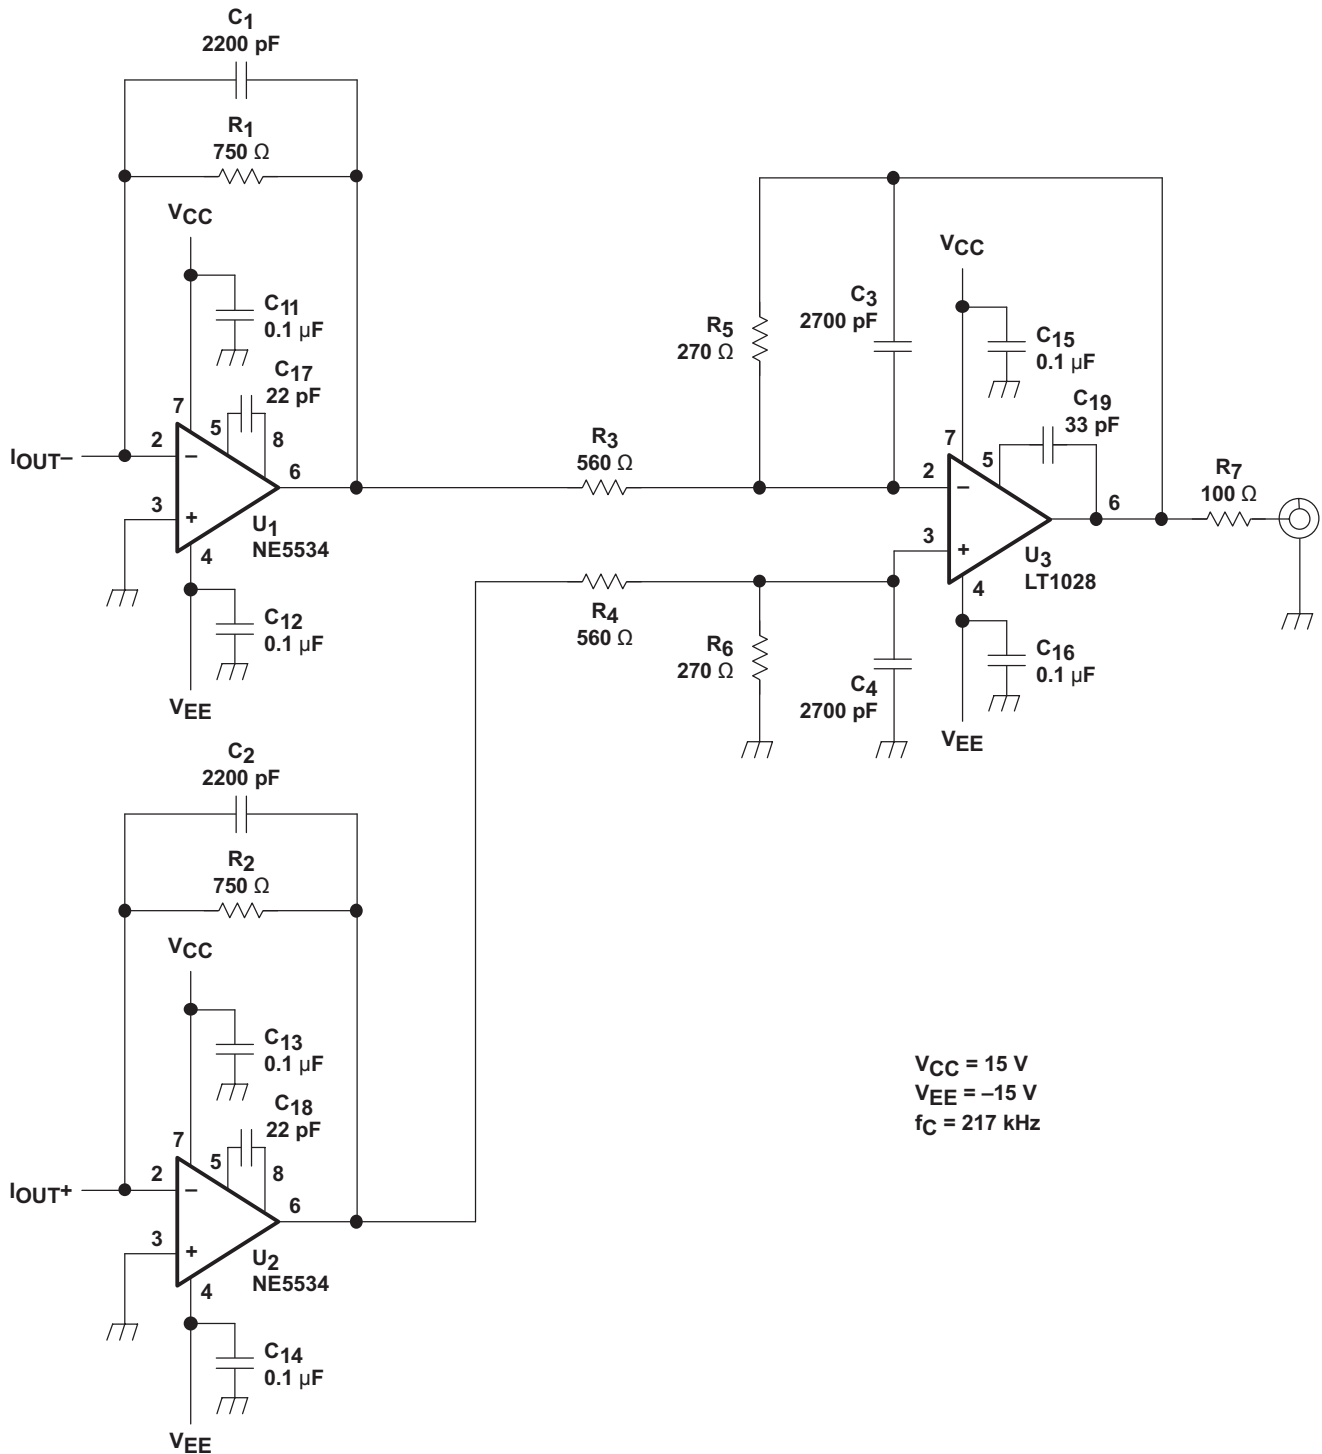
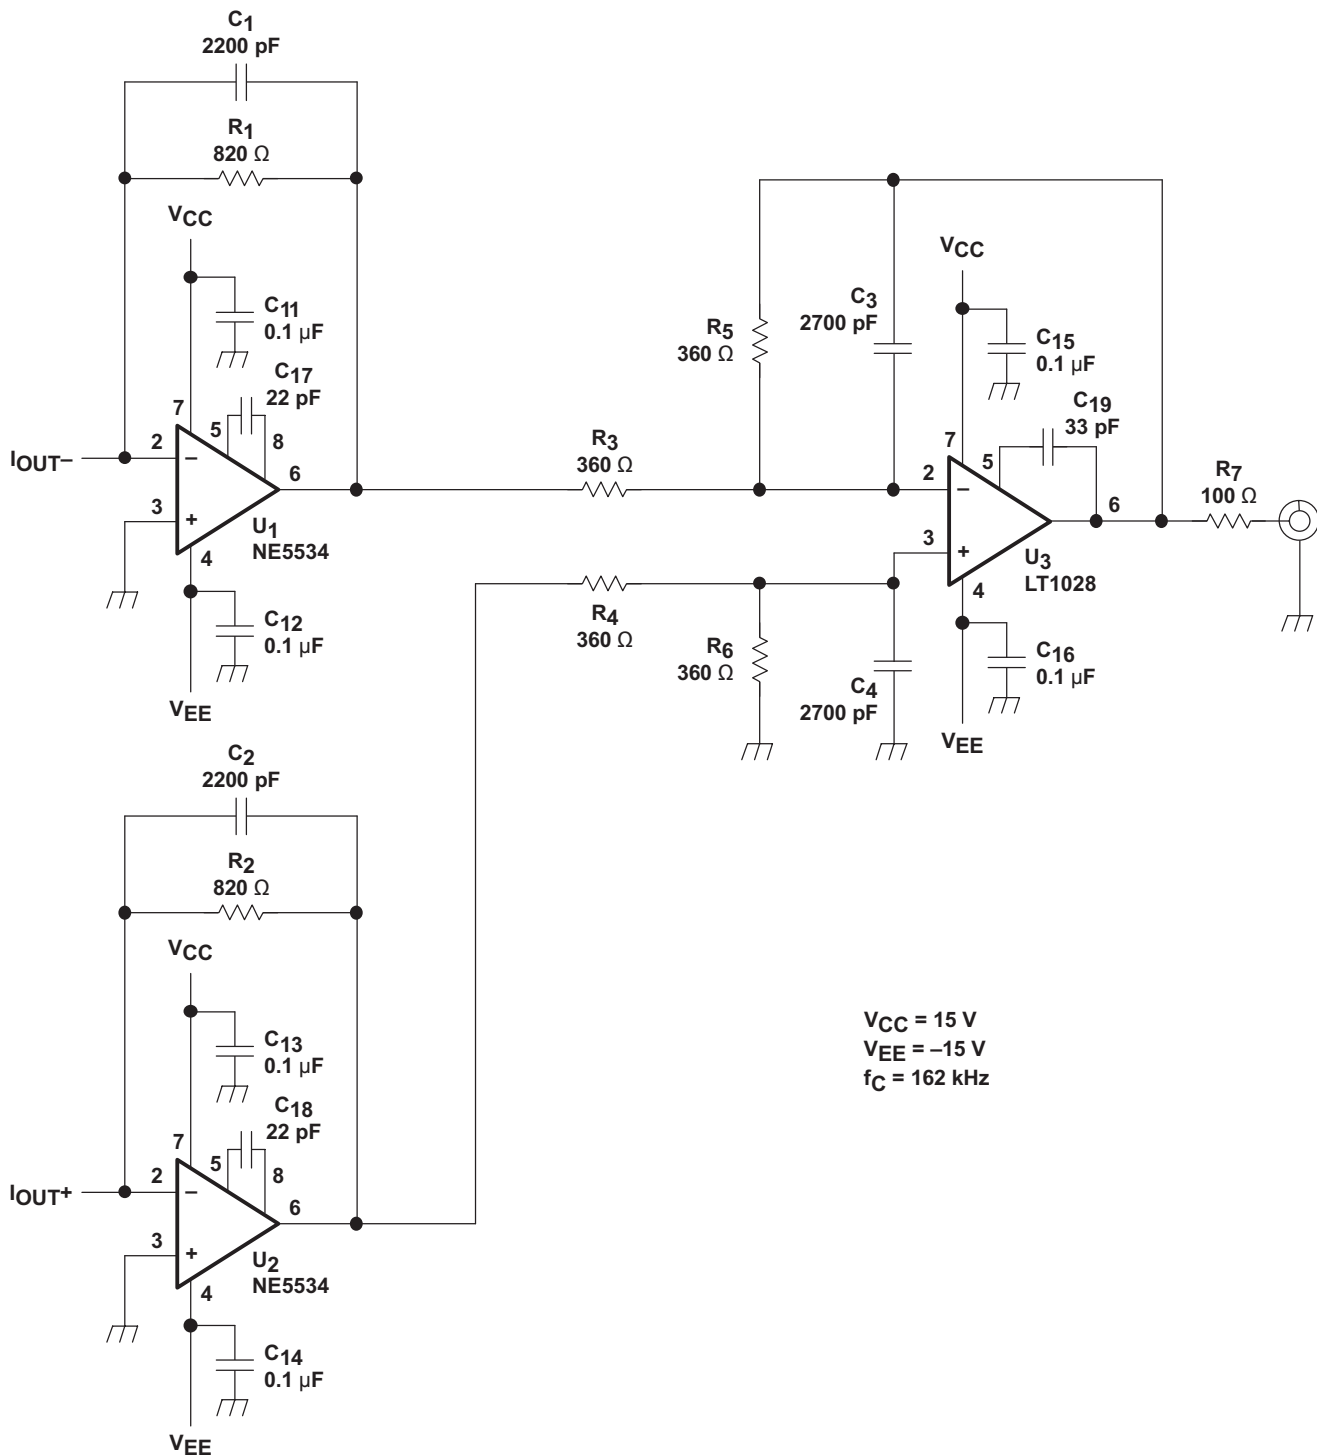
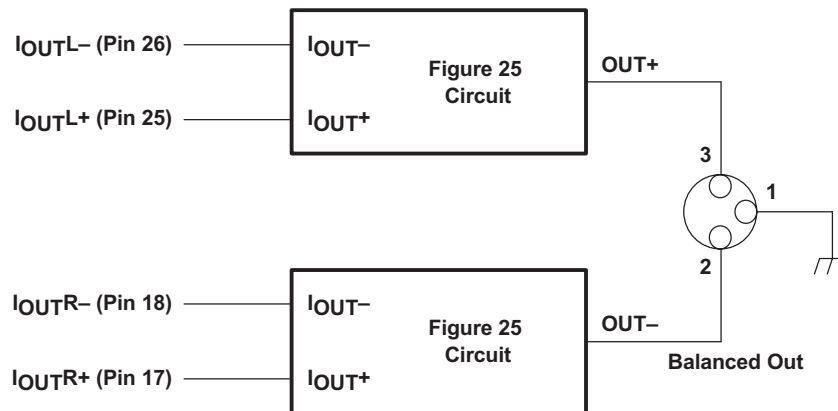

Figure 25. Measurement Circuit, $V_{OUT} = 2 \cdot V_{RMS}$
Figure 26. Measurement Circuit, $V_{OUT} = 4.5\text{-}V_{RMS}$
Figure 27. Measurement Circuit for Monaural Mode
(1) V_{OUTN} is the output of U1, V_{OUTP} is the output of U2, and V_{OUT} is the output of U3 in the measurement circuit of Figure 25.
With the use of the MONO pin, the PCM1794A can output either differential stereo audio, or differential mono audio. Figure 25 shows an example of stereo output. Figure 27 shows an example of mono mode.
In the circuit of Figure 25, the output level is $2\text{-}V_{\text{RMS}}$, and 127-dB S/N is achieved. The circuit of Figure 26 should result in the highest performance. In this case the output level is set to $4.5\text{-}V_{\text{RMS}}$, and 129-dB S/N is achieved (stereo mode). In monaural mode, if the output of the L-channel and R-channel is used as a balanced output, 132-dB S/N is achieved (see Figure 27).
In this application, a PCM audio source is supplied to the device. A current output is produced and then converted to a voltage output in the I/V stage. The next stage in the output is a differential to single-ended amplifier stage with a low pass filter to reduce out of band noise. The f_c of the example circuits (Figure 26 and Figure 27) are shown in the example figures. Use Equation 2 to calculate the value of f_c .